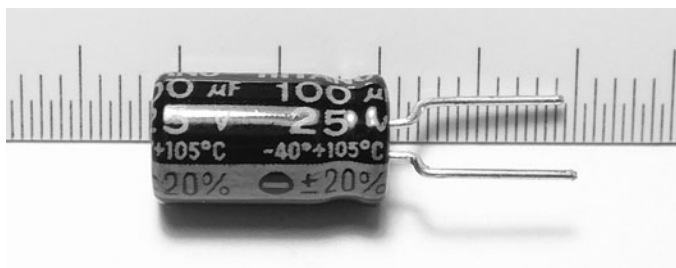

Figure 4-14: Electrolytic capacitor
*Electrolytic capacitors*, like the one shown in Figure 4-14, are physically larger than ceramic types, offer increased capacitance, and are polarized. A marking on the cover shows either the positive (+) side or negative side (–). In Figure 4-14, you can see the stripe and the small negative (–) symbol that identifies the negative side. Like resistors, capacitors also have a level of tolerance with their values. The capacitor in Figure 4-14 has a tolerance of 20 percent and a capacitance of 100  $\mu\text{F}$ .